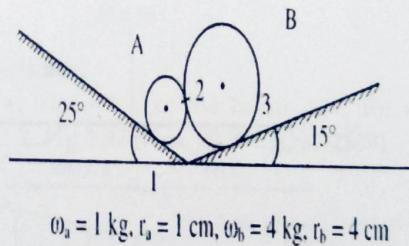

Fig 2.105
- 4) Determine the reactions at points of contact 1, 2 and 3, in figure 2.105. Assume smooth surfaces. (Ans: - $R_1 = 19.73 \text{ N}$; $R_2 = 11.6 \text{ N}$; $R_3 = 32.22 \text{ N}$)